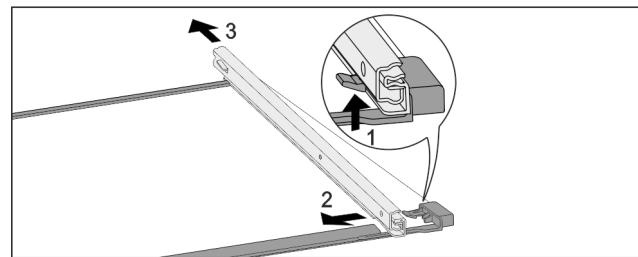

Fig. 164 Glass shelf with rails
- Push up front click-in hooks. Fig. 164 (1)
- Slide pull-out rails to the side Fig. 164 (2) and backwards Fig. 164 (3).